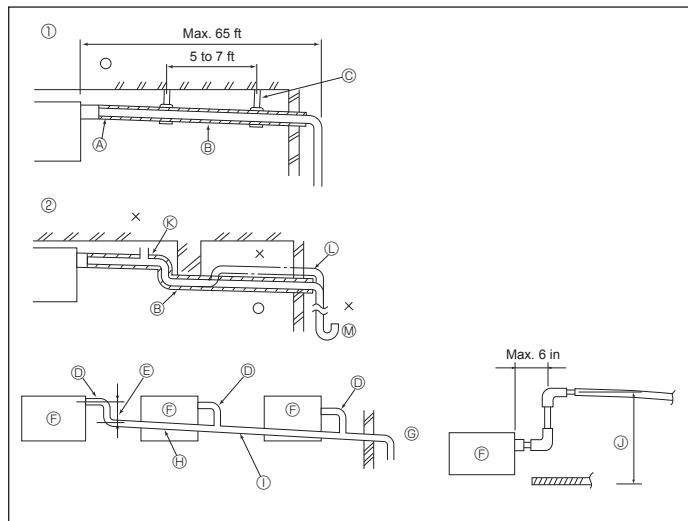

Fig. 6-1
6.1. Drainage piping work (Fig. 6-1)
① Correct piping	② Wrong piping	③ Support metal
④ Make it as large as possible	⑤ Indoor unit	⑥ Air bleeder
⑦ Make the piping size large for grouped piping.	⑧ Downward slope (1/100 or more)	⑨ Raised
⑩ O. D. Ø38 mm (1-1/2 inch) PVC TUBE for grouped piping (9 mm (11/32 inch) or more insulation)	⑪ Up to 850 mm (33 inch)	⑫ Odor trap